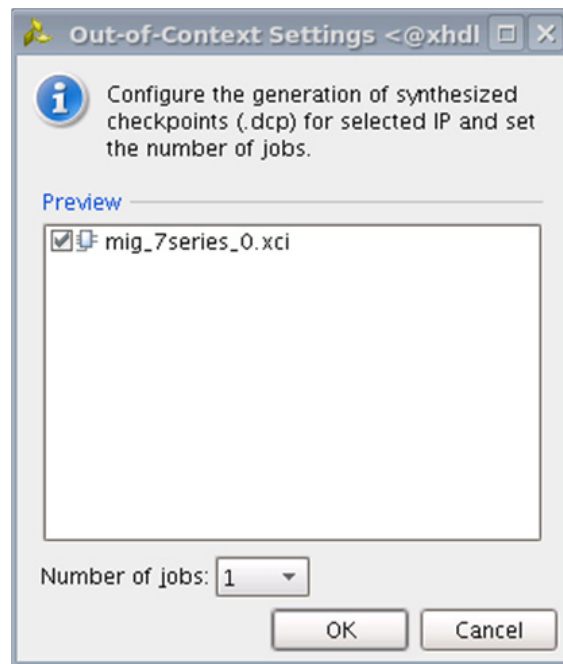

Figure 1-30: Out-of-Context Settings Window
2. Click **Out-of-Context Settings** to configure generation of synthesized checkpoints. To enable the Out-of-Context flow, enable the check box. To disable the Out-of-Context flow, disable the check box. The default option is "enable" as shown in Figure 1-30.